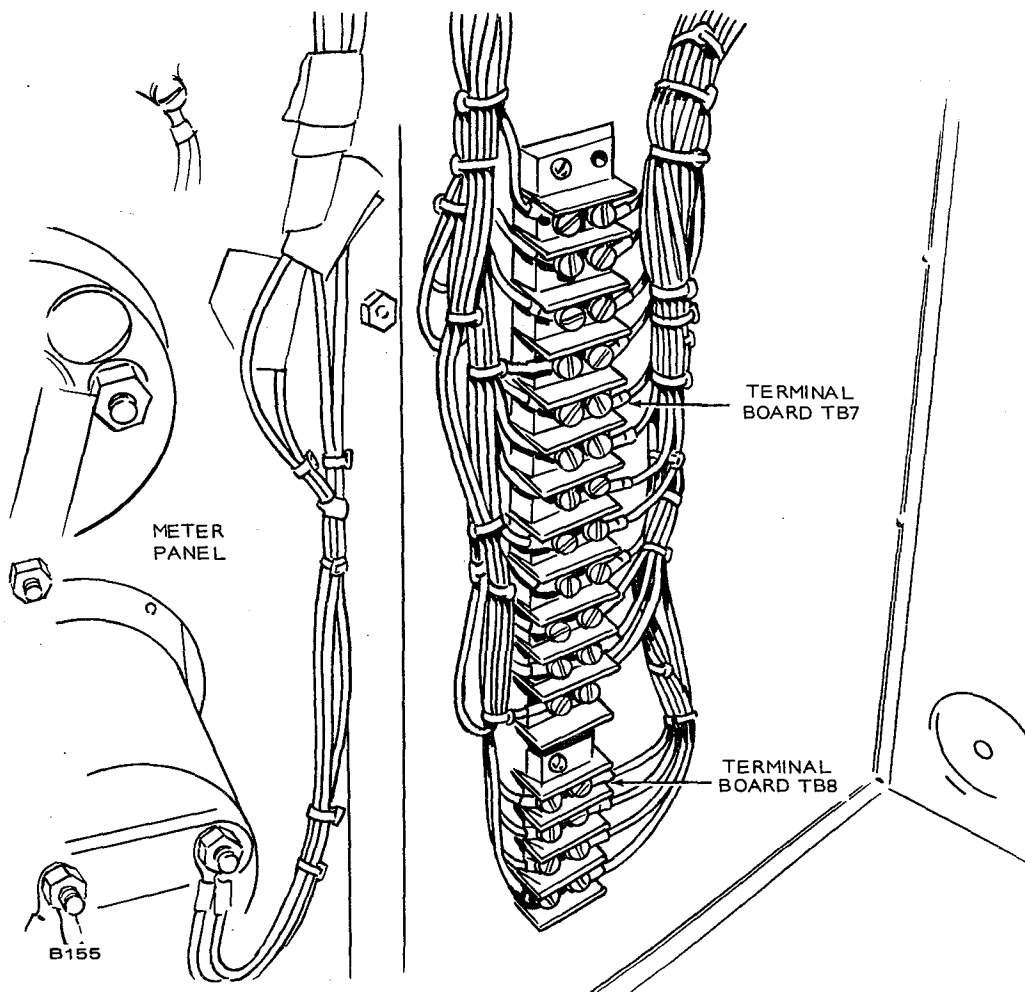

FIGURE 2. TERMINAL BOARD FOR METER-LAMP PANEL WIRE CONNECTIONS
9. Disconnect the meter-lamp panel wire leads from TB7 and TB8 (if present). See Figure 2.